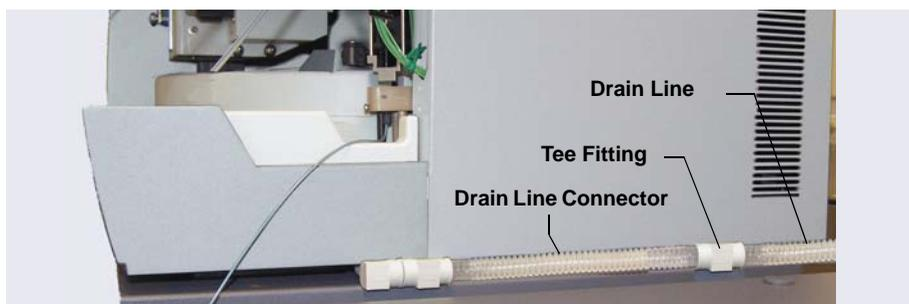

Figure B-34. *Drain Line Connections for a Dionex AS-AP with a Sample Temperature Option*
Figure B-34 shows the completed drain line connections for a Dionex AS-AP with sample temperature control.
5. Connect the other end of the short drain line to the fitting on the front right side of the autosampler (see Figure B-34).